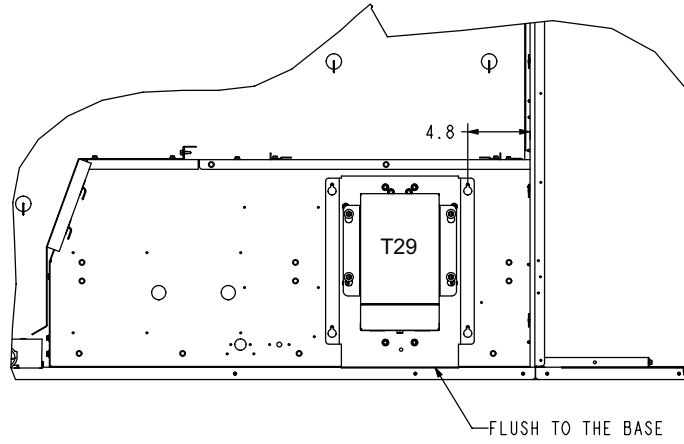

FIGURE 14
- i. See FIGURE 14 for 036-060 units.